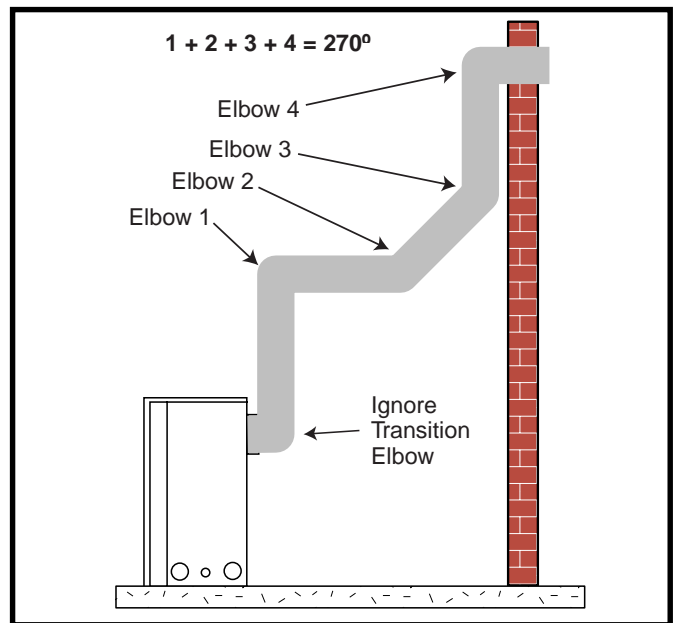

Fig. 23 Maximum elbow usage.
- The maximum number of 45° elbows permitted per side wall installation is two (2). These elbows can be installed in either the vertical or horizontal run.
- The maximum number of elbow degrees in a system is 270° (Fig. 23).